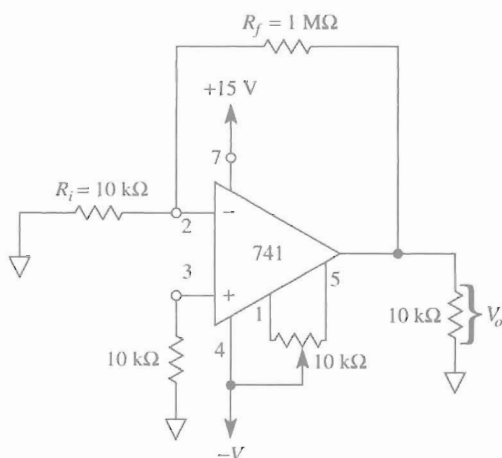

FIGURE 9-9 Circuit for Example 9-6.
A 741 op amp in the circuit of Fig. 9-9 has the following drift specifications. As temperature changes from 25°C to 75°C, I_{os} changes by a *maximum* of 0.1 nA/°C and V_{io} changes by a *maximum* of 20 μ V/°C. Assume that V_o has been zeroed at 25°C and then the surrounding temperature is raised to 75°C. Find the maximum error in output voltage due to drift in (a) V_{io} ; (b) I_{os} .
- 9-13. In Fig. 9-9, V_{io} changes by $\pm 0.5\ \text{mV}$ when the temperature changes by 50°C . What is the change in V_o due to the change in V_{io} ?
- 9-14. I_{os} changes by $\pm 2\ \text{nA}$ in Fig. 9-9 for a temperature change of 50°C . What is the resulting change in V_o ?